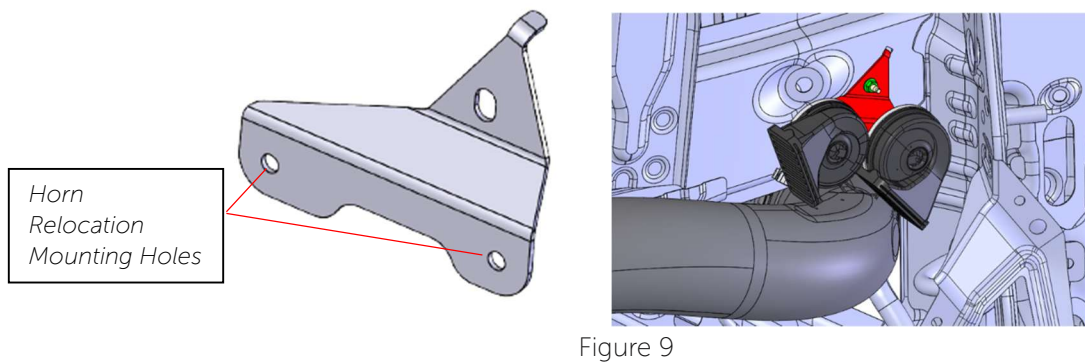

Figure 9
7. Install the provided horn relocation bracket to the frame and re-install horns. (fig. 9)